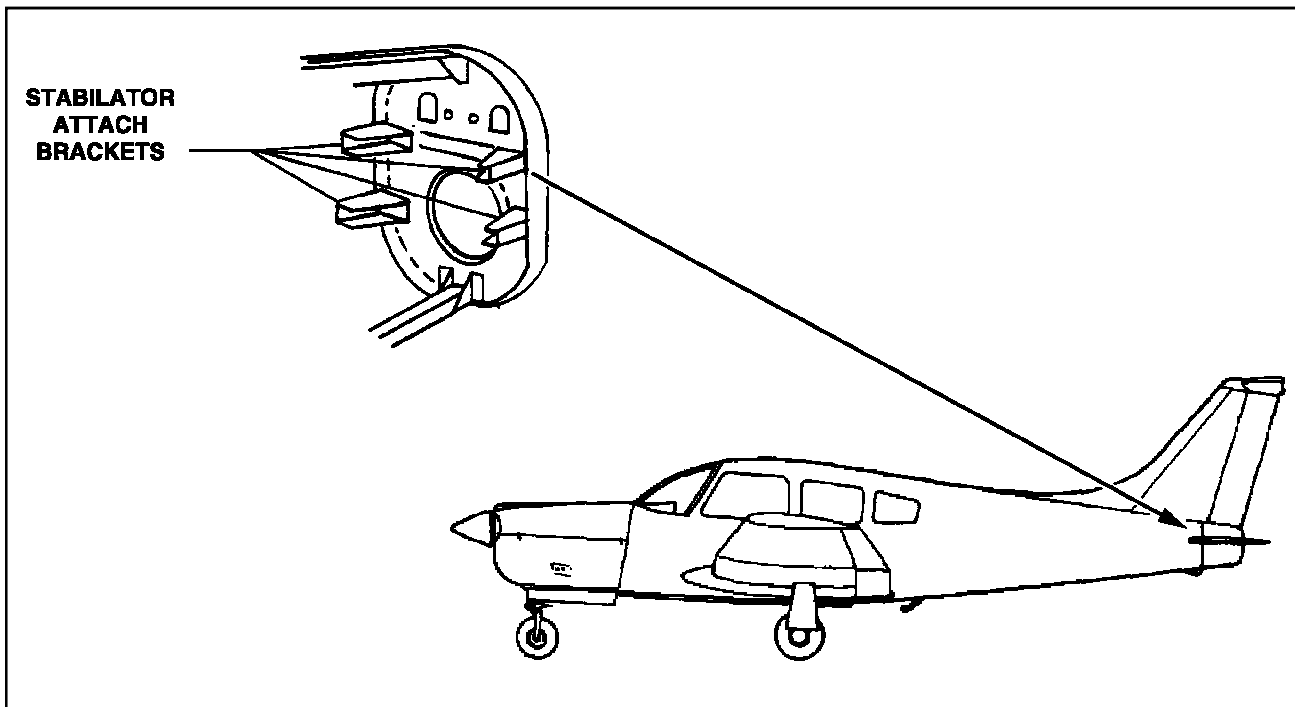

Figure 3-1. Stabilator Attach Fitting Corrosion Inspection
- (c) Inspect the steel attach fittings (4 places) for the stabilator and adjacent fuselage structure for rust and/or corrosion. (See Figure 3-1.)